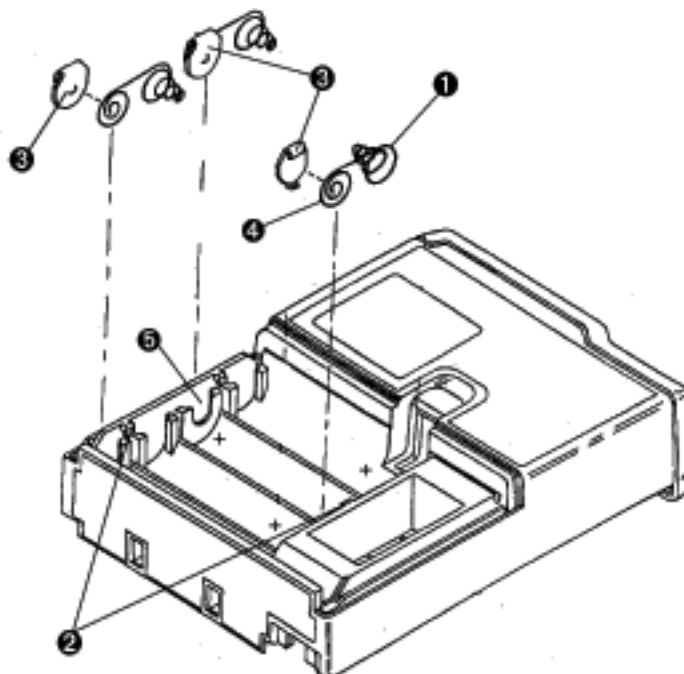

Figure 4-2: Battery contact clip installation
- 1 Remove the battery cover from the 90207. Refer to *Figure 4-2: Battery contact clip installation*.
- 2 Using a fine-tipped flat screwdriver, remove the three twin-spring contacts (1) by gently prying the contacts out from under the molded retaining hooks (2).